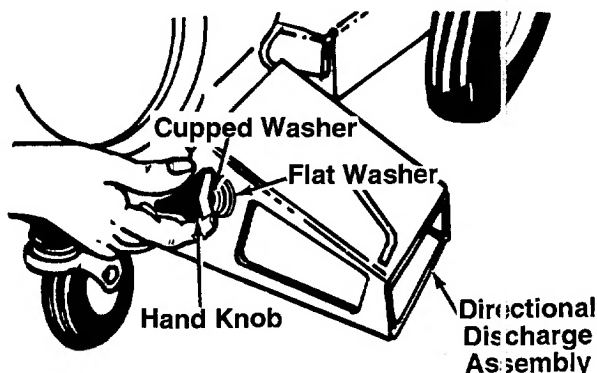

FIGURE 14.
6. Place the directional discharge assembly over chute opening. Secure with two hand knobs, cupped washers and flat washers. The cupped side of washers go against the flat washers. See figure 14.